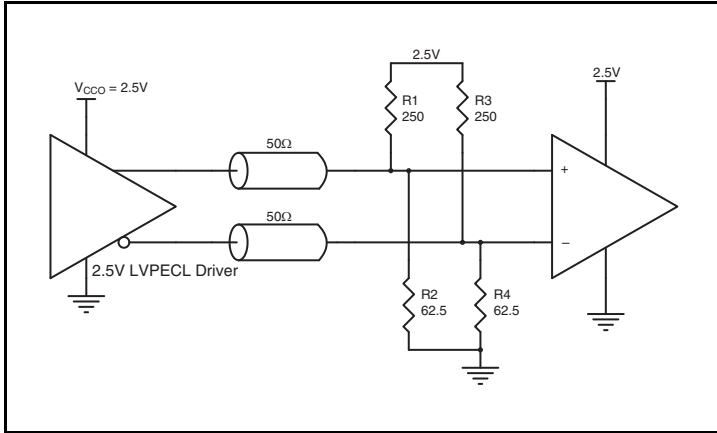
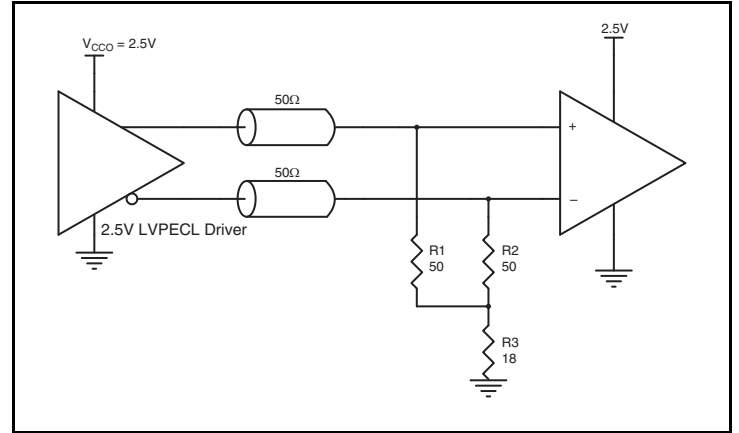
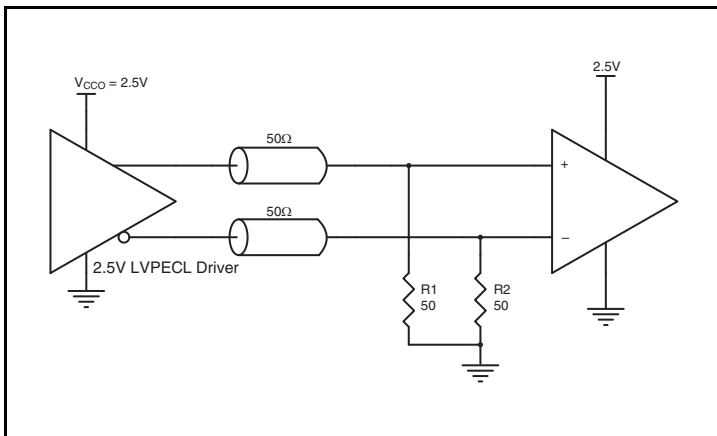

Figure 5A. 2.5V LVPECL Driver Termination Example
Figure 5B. 2.5V LVPECL Driver Termination Example
Figure 5C. 2.5V LVPECL Driver Termination Example
Figure 5A and Figure 5B show examples of termination for 2.5V LVPECL driver. These terminations are equivalent to terminating 50Ω to $V_{CC0} - 2V$. For $V_{CC0} = 2.5V$, the $V_{CC0} - 2V$ is very close to
-LVCMOS ground level. The R3 in Figure 5B can be eliminated and the termination is shown in Figure 5C.